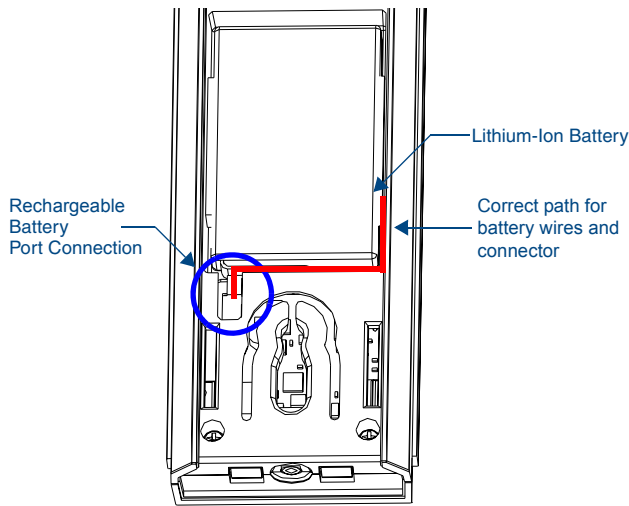

FIG. 3 Rechargeable Battery Port on The Mio R-3 Remote
3. Connect the terminal end of the Lithium-Ion battery to the port as shown in FIG. 3. It may be necessary to use a thin, blunt non-conductive object to seat the battery connector fully within its port.